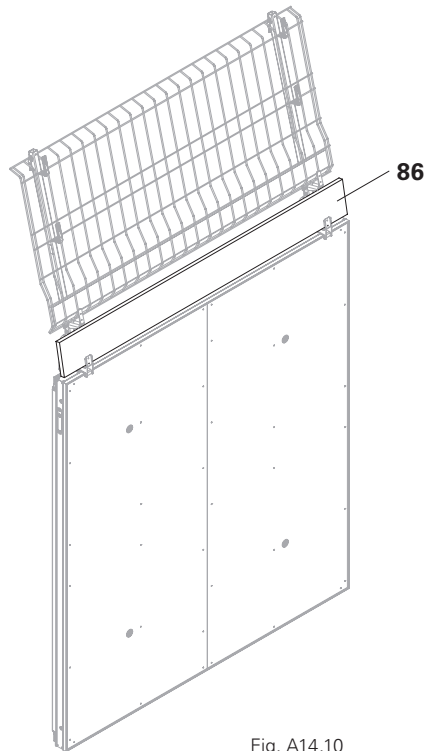

Fig. A14.10
1. Insert the toe board (86) into the mounting shoe (27.1) from a safe workplace.
2. Secure toe board (86) with suitable nails.
- (Fig. A14.10)